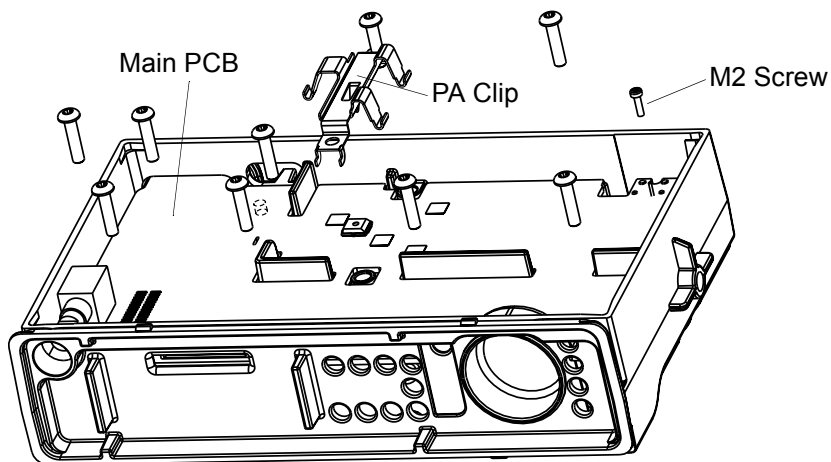

Figure 2-9 PA Clip and Main PCB Removal (for Low Power Models)
1. Remove the screw that attaches the PA clip to the chassis. See Figure 2-9.